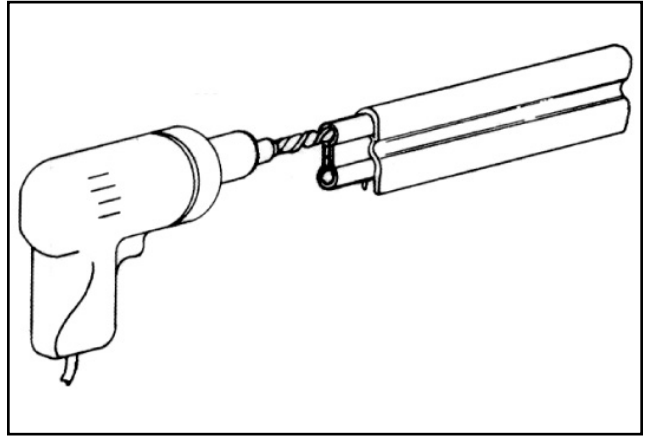

Figure 27-1
4. Ream conductor lobes. See **Figure 27-1**.